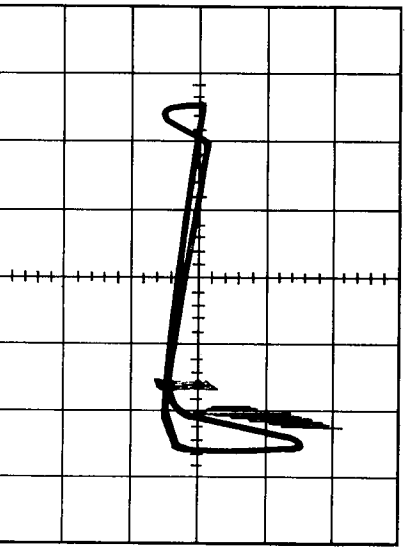

Figure 11. Residual Output of Analyzer at Clipping, With Evidence of Parasitic Oscillation at 20 Hz
5. Verify that the display is free of parasitic oscillations. If parasitics appear, as shown in Figure 11, refer to the Trouble Analysis Section.